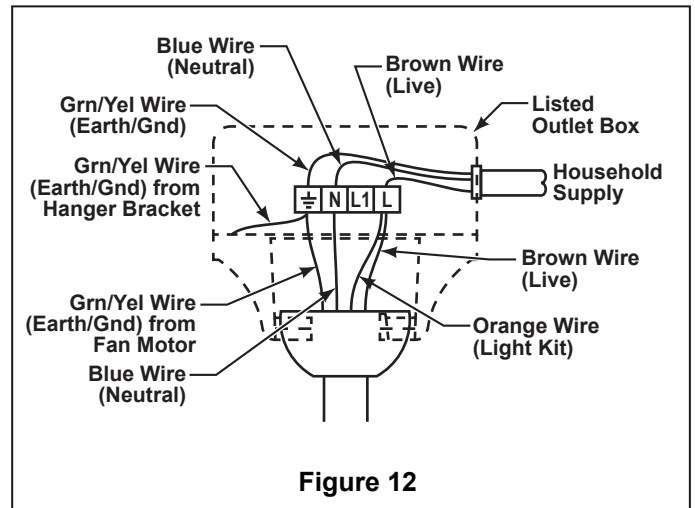

Figure 12
2. Securely connect the blue fan motor wire to the blue supply (neutral) wire using wire connector supplied. Securely connect the brown fan motor wire and orange wire to the live supply (normally black but marked as a live supply with red sleeving) (Figure 12). Make sure all connections are secure.